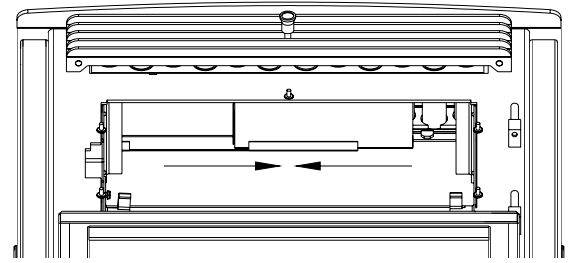

Figure 43
- Open the door and remove the baffle from the firebox. Slide each side of the baffle toward the center to remove (Figure 43). Close the door.
- Baffle:** Remove the baffle and scrape off ashes. Slide both sides toward the center to remove the baffle(Figure 43) Use a vacuum is necessary. In some cases, you will need to remove creosote on the baffle, which can accumulate rapidly under certain conditions. A small wire brush can be used. It is important to remove this creosote because it is highly combustible and could cause premature corrosion.